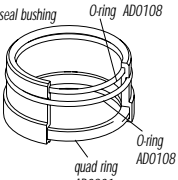

Figure 5
6. Remove seals shown in Figure 5 and 6. Wipe all the surfaces using a clean lint-free cloth (Do not use solvent). Liberally apply Cane Creek Defriction Lube to the seal grooves and the new seals. Install the seals as shown in Figure 5 and 6.